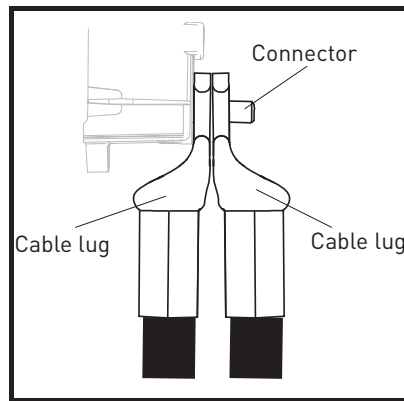

Figure 36. Placing two cable lugs on top of each other
- Note: If you use several cables on one connector observe the position of cable lugs on top of each other. See Figure 36 below.